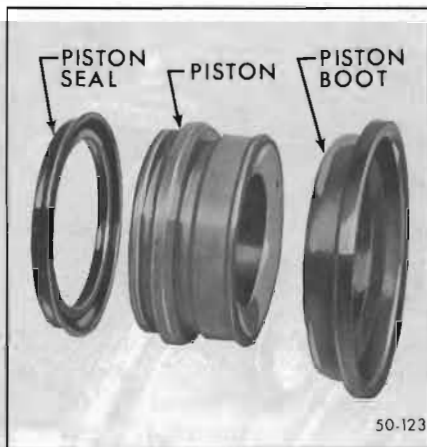

Figure 50-45—Piston - Exploded View
1. Lubricate new piston seals, "O"-ring seals and the inner and outer beads of dust boots with clean brake fluid. Install piston seals and boots in piston grooves. Be sure lip of seal is toward closed end of each piston. See Figure 50-45.